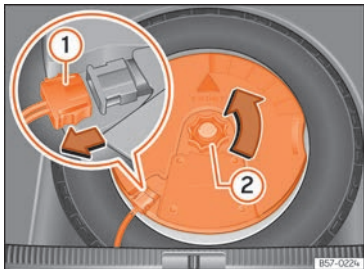

Fig. 318 In the boot: remove the subwoofer.
- Disconnect the cable for the subwoofer speaker »» Fig. 318 ①.
- Turn the securing wheel anti-clockwise ②.